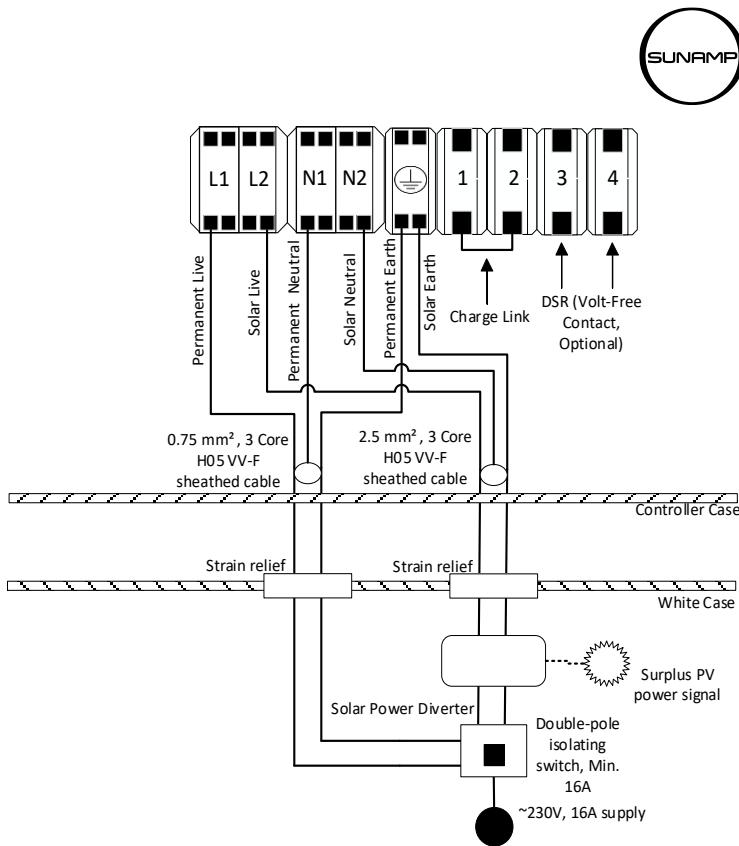

Figure 12 - Thermino ePlus Heat Battery wiring with solar power diversion
- With Solar Power Diversion follow Section 6.4.2, Figure 12.
Potential dual-supply – Always isolate both supplies to the Heat Battery controller before working on the appliance. Ensure that Links 1 & 2 are removed (see Figure 12) and that the power diversion controller output is modulating AC. Modulating DC power diversion controllers are NOT compatible with the product and their use poses a fire risk.